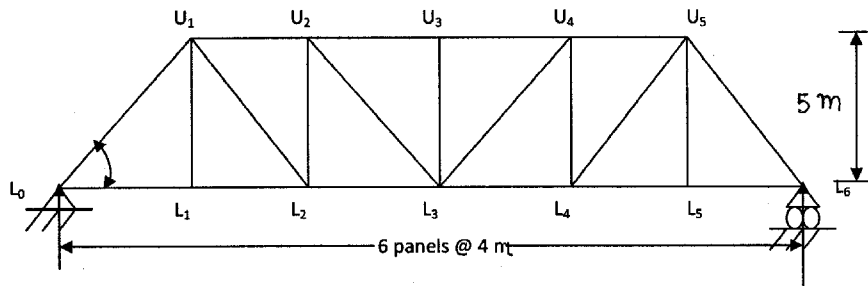

Figure 4
- (b) Determine the maximum forces in members L_2L_3 , U_2L_2 of a truss shown in fig 4. If [10]